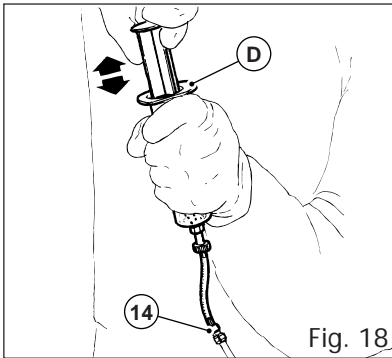

Fig. 18
- replace the needle insert (14) on the end of the tube and replace the biconical bushing (15);
- place the bleeder tube on the syringe (D, fig. 18) and place it on the needle insert (14) on the tube;